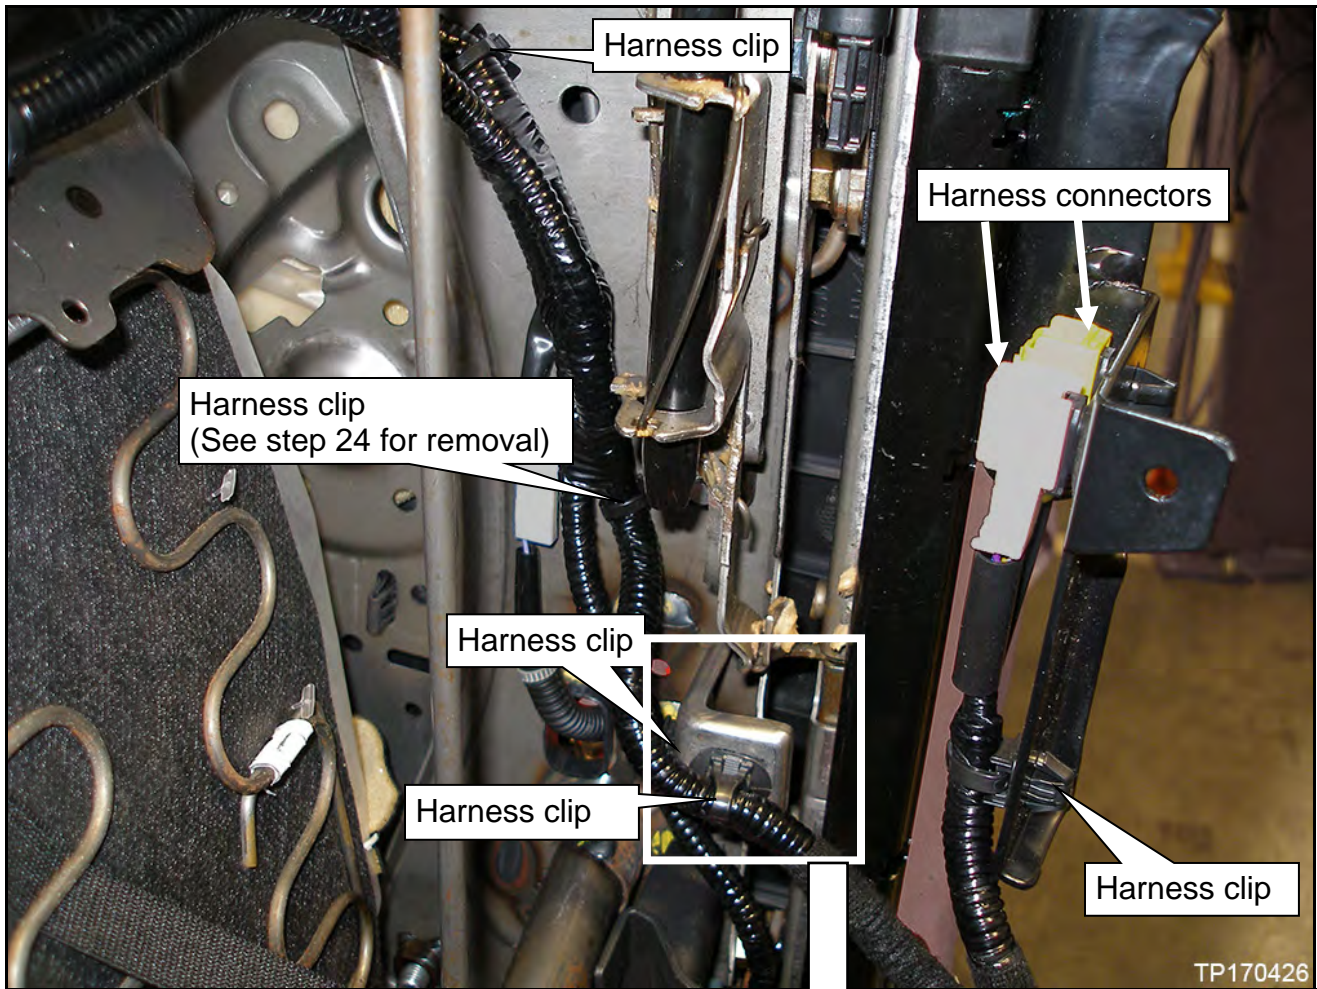

Figure 13
22. Disconnect harness connectors and clips shown in Figure 13.
24. Disconnect front of seat side trim to access harness clip shown in Figure 13.
- Pull seat side trim away from seat to access the back of the harness clip in Figure 13.